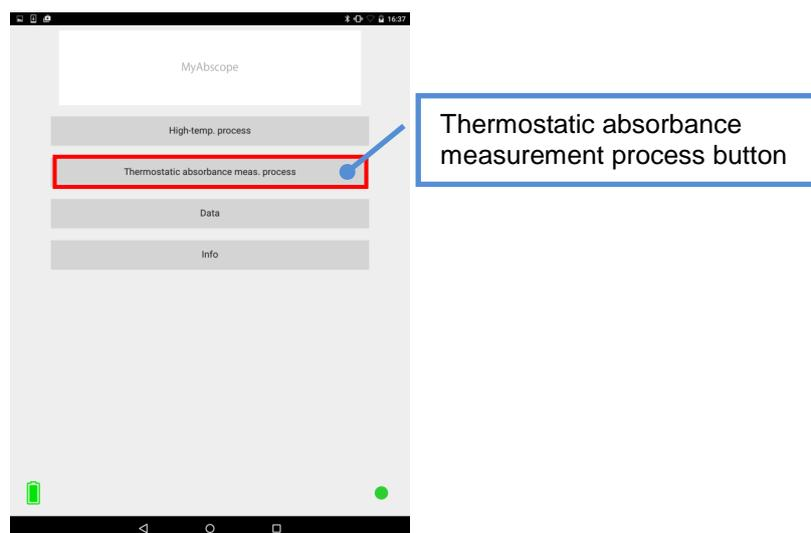

Figure 4-1: Thermostatic absorbance measurement process button on top screen
- (1) Tap “Thermostatic absorbance meas. process” (Figure 4-1), the thermostatic absorbance measurement process button, on the top screen after this product is connected to display the thermostatic absorbance measurement process setting screen (Figure 4-2).